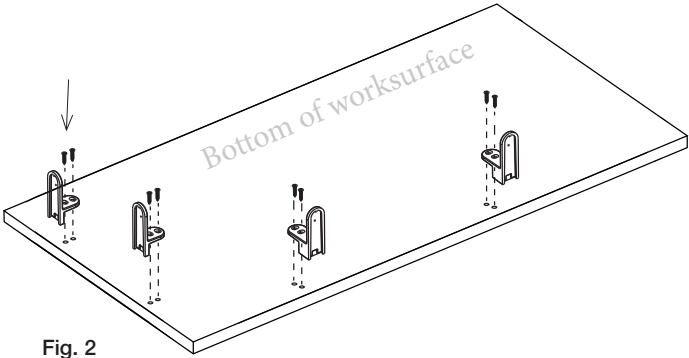

Fig. 2
3. Note the difference in thickness between the 1 1/4" Back Brackets (D) and the 3/8" Side Brackets (C). Position, in the quantity required, the 1 1/4" Back Brackets (D) along the back edge of the worksurface to align with the mark made in previous step. Holding the bracket firmly against the edge of the top, with the location mark centered in the bracket slot, attach each bracket to the worksurface using (2) #10 x 1" Type 17 Flat Head Screws (F) (Fig. 2).